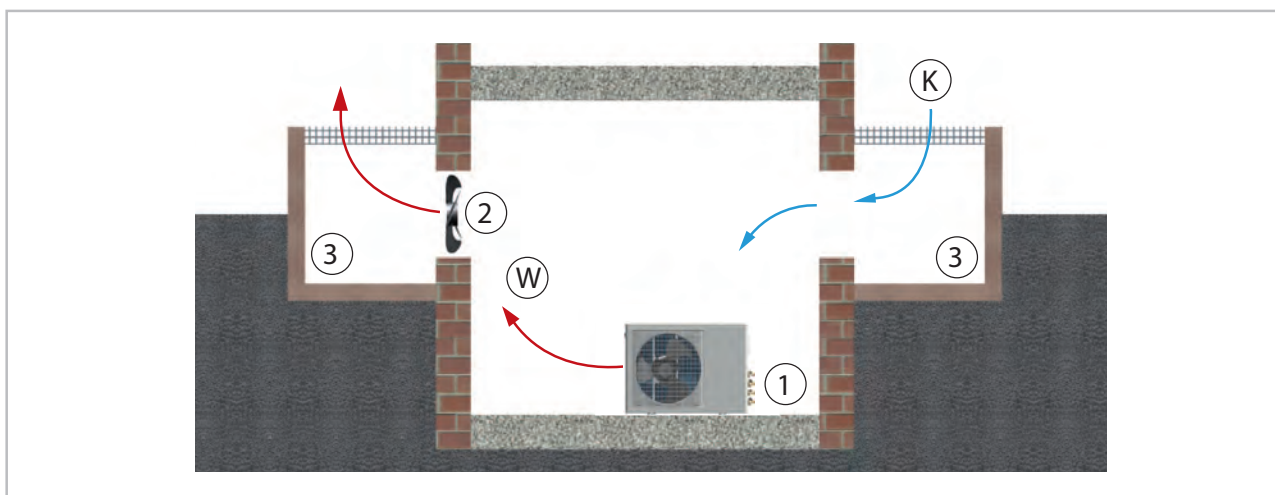

Fig. 28: Installation inside buildings
- Ensure that heat can dissipate adequately when placing the outdoor unit in cellars, lofts, adjoining rooms or halls (Fig. 28).
- Install an additional fan with a rated flow comparative to that of the outdoor unit being installed in the room and which can compensate any additional pressure loss in ventilation ducts (Fig. 28).